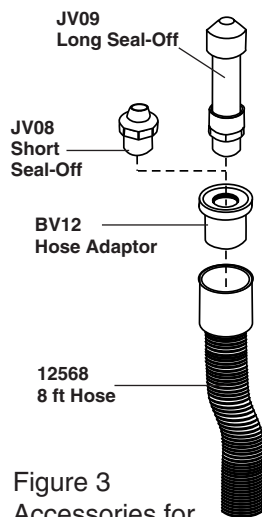

Figure 3
- Use the BV12 hose adaptor, JV08 seal-off or the long JV09 Seal-off. The JV07 can also be used (see Figure 3).